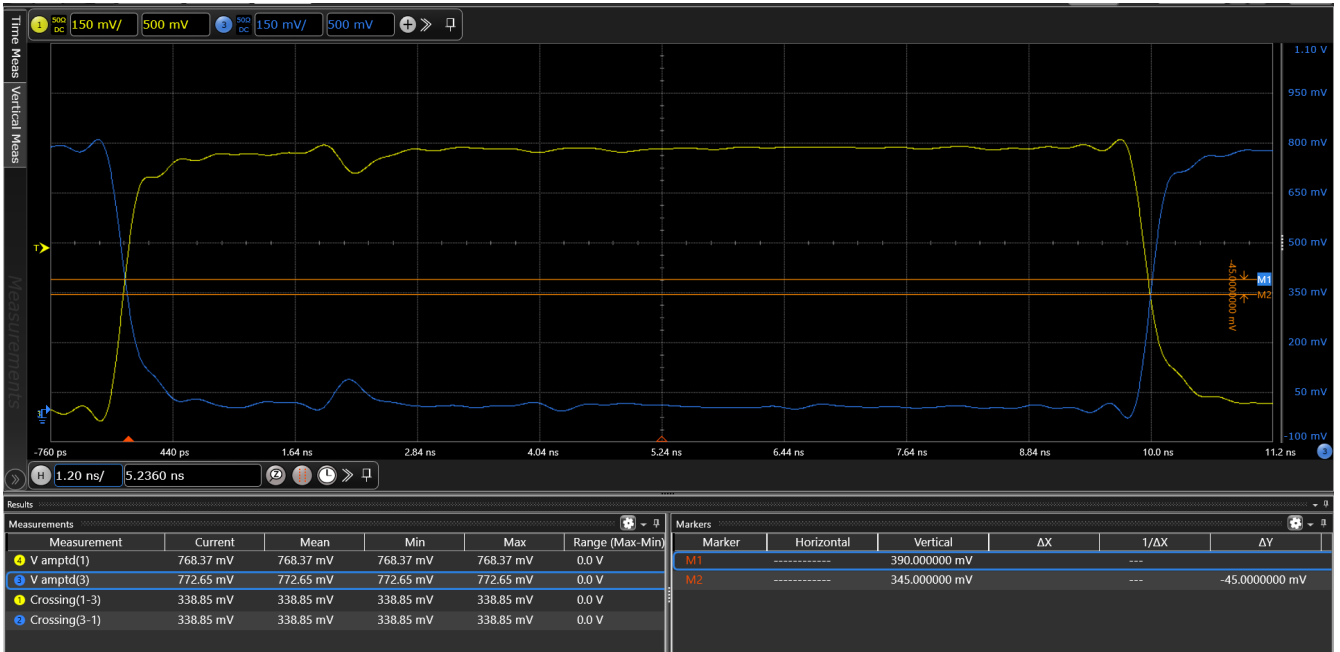

Figure 18. Vcross – HCSL External Termination, Boost = 0% on OUT0 (yellow trace) and nOUT0 (blue trace)
- Figure 18. Vcross – HCSL External Termination, Boost = 0% on OUT0 (yellow trace) and nOUT0 (blue trace)10